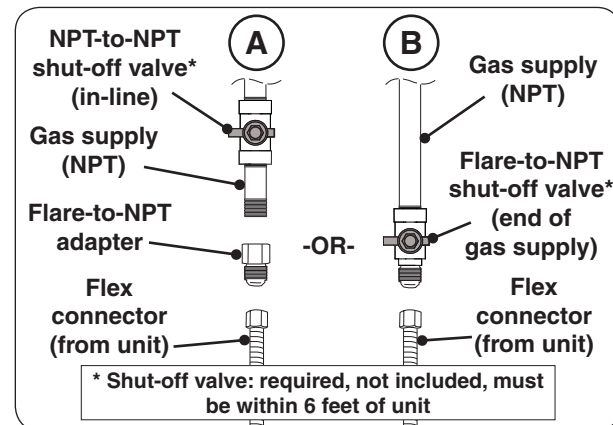

Fig. 19-3 Connecting to a gas line
- Install the supplied flare-to-NPT adapter to the gas supply (NPT) using a pipe joint compound resistant to all gasses (see Fig. 19-3, A). Tighten securely.
- Connect the flex connector to the flare-to-NPT adapter (see Fig. 19-3, A). Tighten securely.
- Connect the flex connector to the shut-off valve (flare) (see Fig. 19-3, B). Tighten securely.